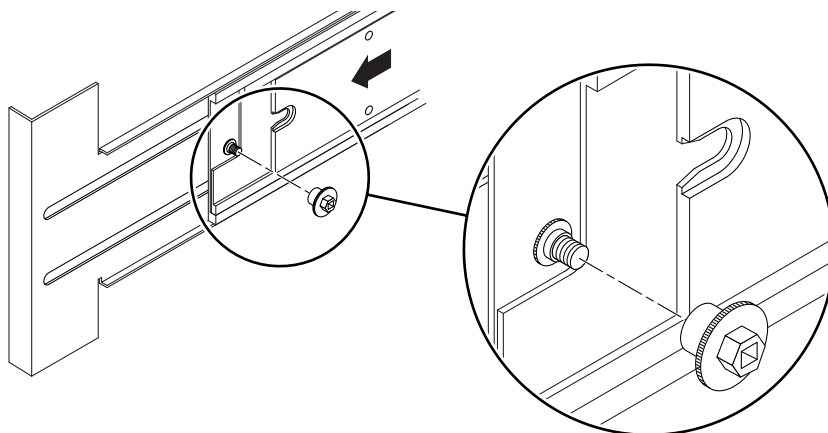

FIGURE 3-13 Inserting and Tightening the Retention Nut
5. From the rear of the system, insert and tighten the retention nut over the washer (FIGURE 3-13).
1. From the rear of the system, remove the retention nut over each washer (**FIGURE 3-13**).